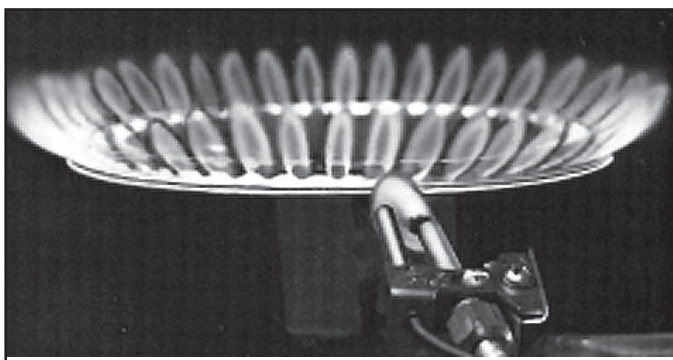

Figure 4. — Main Burner and Pilot Flame Pattern (Sheet Metal Burner)
BURNER ADJUSTMENT — The sheet metal burner does not require adjustment (Refer to Fig. 4)
B. Visually inspect the burner annually while firing and pilot burner flame with main burner off. (Refer to Fig. 4 for normal flame pattern.) If any unusual burner operation is noted, the water heater should be shut off until qualified service assistance can be obtained.